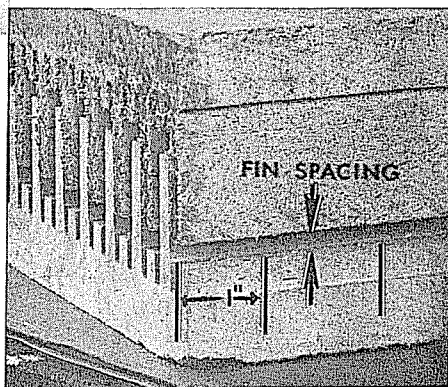

Figure 21 (8029373) Arc Chute Fins Spacing
2. The gap between the fins at the rear of the arc chute sides measured at least 1" from the back end of the arc chute (See Figure 21) should be 0" to 1/16".